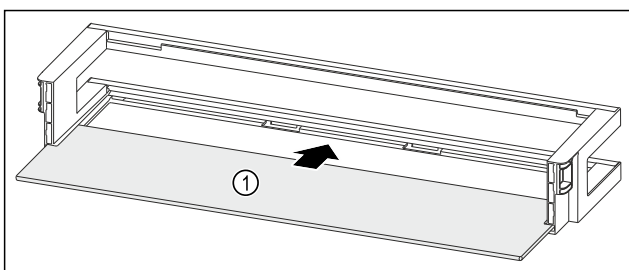

Fig. 262 Door rack with shelf
- ▶ Push the shelf Fig. 262 (1) into the side recesses.